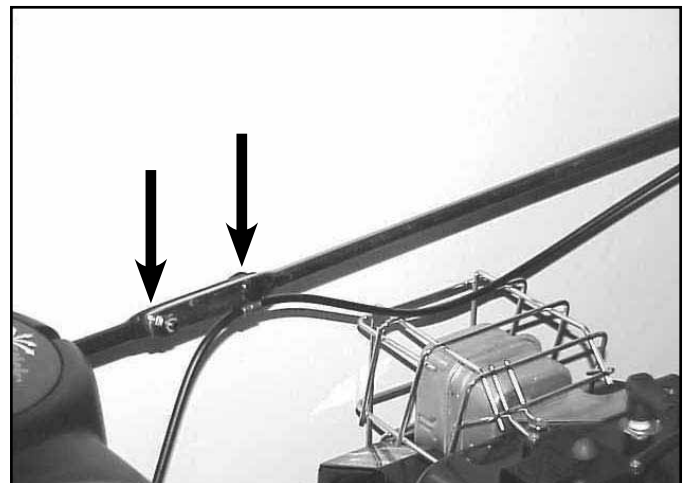

Fig 018
5. Remove the two carriage bolts and nuts on the chute control rod and lift the Quick Stick out of the control panel. Note the location of the cable clamp, as it is necessary for latch cable function (Fig. 018).